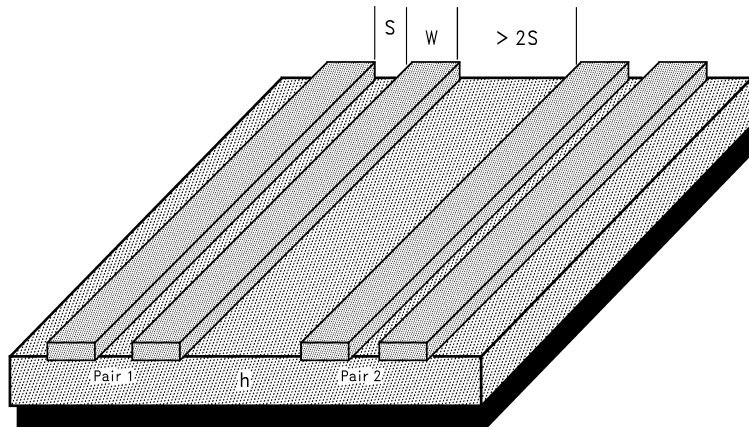

FIGURE 4. Differential Trace Layout (See AN-905)
- Traces should be laid out for differential impedance control (space between traces needs to be controlled). See Figure 4 and AN-905 for equations.
- Place adjacent LVDS trace pairs at least twice as far away (as the distance between the conductors of the pair) (see Figure 4).
- Place TTL/CMOS (large dV signals) far away from LVDS, at least three times (>3S) away or on a different signal layer. (See Figure 4.)